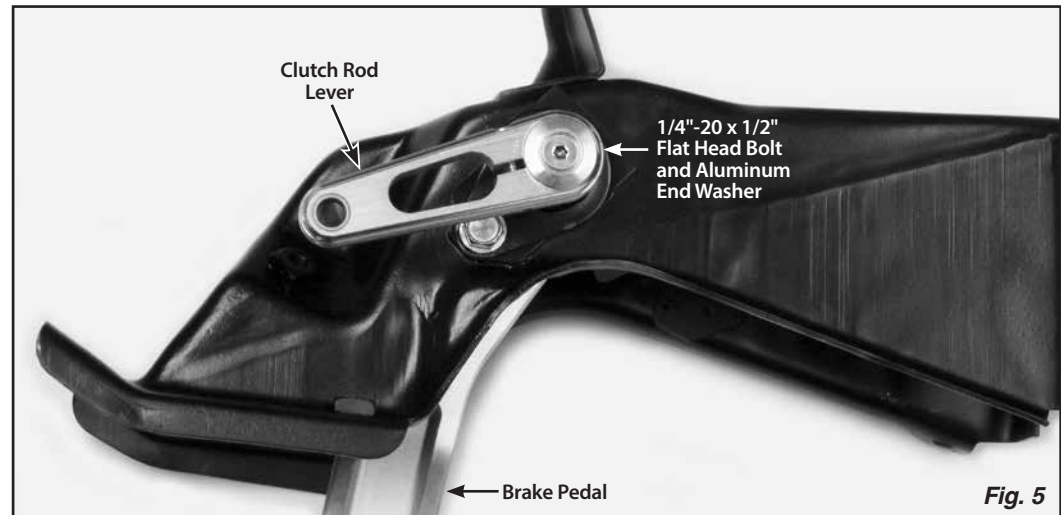

Fig. 5
- Step 5:** Connect the clutch rod lever to the original clutch pushrod (not included), and install it onto the right hand end of the splined shaft. Install the 1/4"-20 x 1/2" flat head bolt and aluminum end washer onto the right hand end of the splined shaft. Tighten the 1/4"-20 x 7/8" socket head bolt in the clutch rod lever to clamp it into place. **Fig. 5**